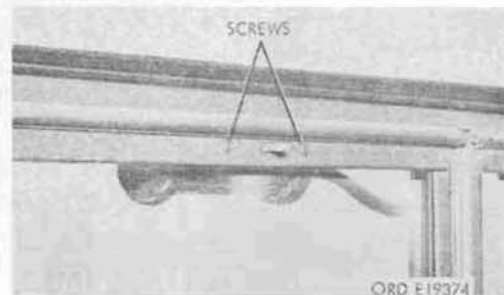

Figure 258. Windshield wiper motor - removal
a. Removal. Remove the nut holding the wiper arm to the wiper motor shaft, and remove the arm and blade. Remove the two screws holding the wiper motor to the windshield frame (fig. 258) disconnect the wiper motor hose, and remove the wiper motor.